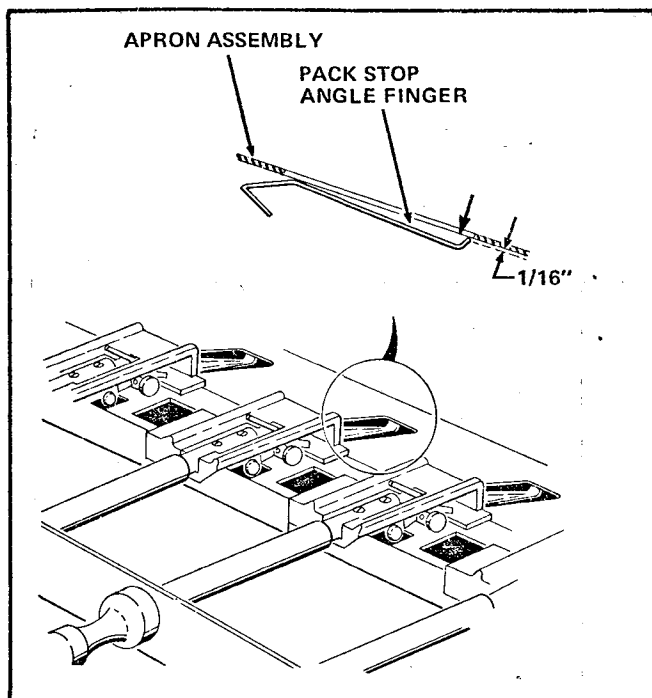

FIGURE 4
5. Inspect the Pack Stop Angle. The tip of the fingers on the Pack Stop Angle should be within 1/16 inch of the under side of the Apron Assembly. See Figure 4.